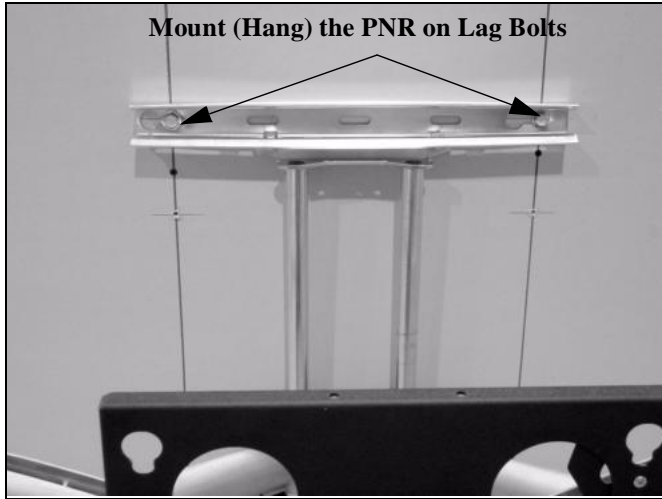

Figure 2
1. With an assistant, lift and hang the PNR on the two lag bolts and washers previously installed on the wall. (See figure 2).